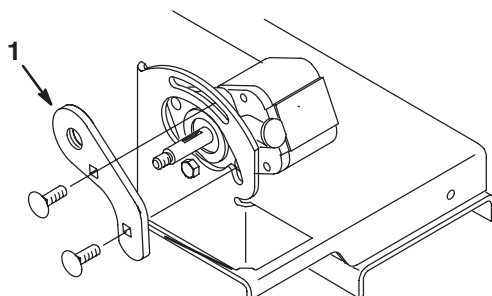

Figure 2
5. Mount the pick-up plate to the pump with 2 new carriage bolts and locknuts as shown in Figure 2.